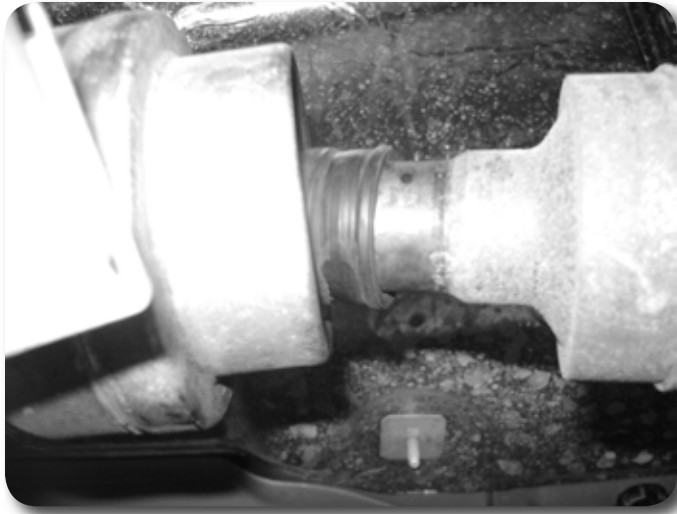

Figure 22a
62. Remove the stock CV boot clamp on the front driveshaft at the transfer case. Slide the boot rearward approximately 1/4" and install the new boot clamp, rotate the driveshaft to ensure that the clamp does not interfere with the lip on the front driveshaft. Figure 22a, 22b